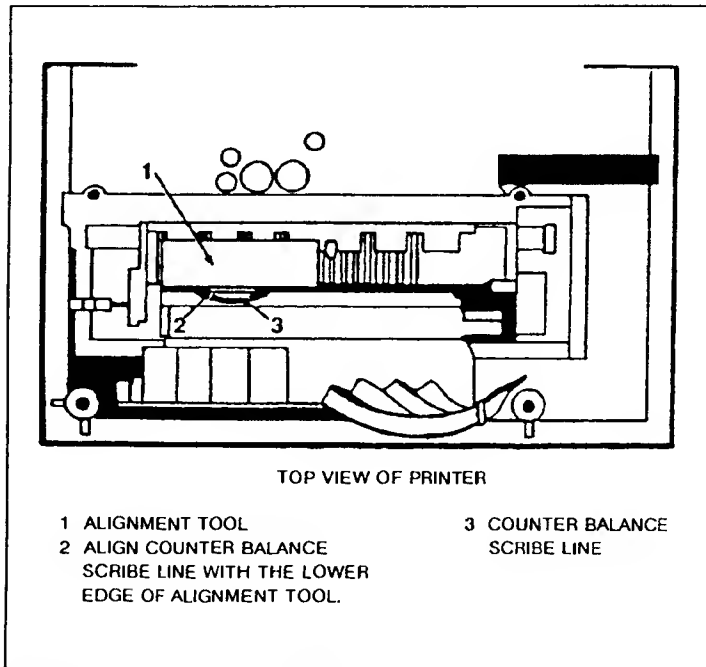

Figure 5-1. Crank Arm Phasing
- Place the phasing tool (P/N 02566-20129) against the printbar fins, with the edge of the tool resting on top of the counter balance (see Figure 5-1, item 1).
- d. Check the alignment of the counter balance weights to see if the scribed reference line is parallel with the edge of the tool (see Figure 5-1, item 2). If the line is parallel, no adjustment is needed. If the line is not parallel, proceed to step e.